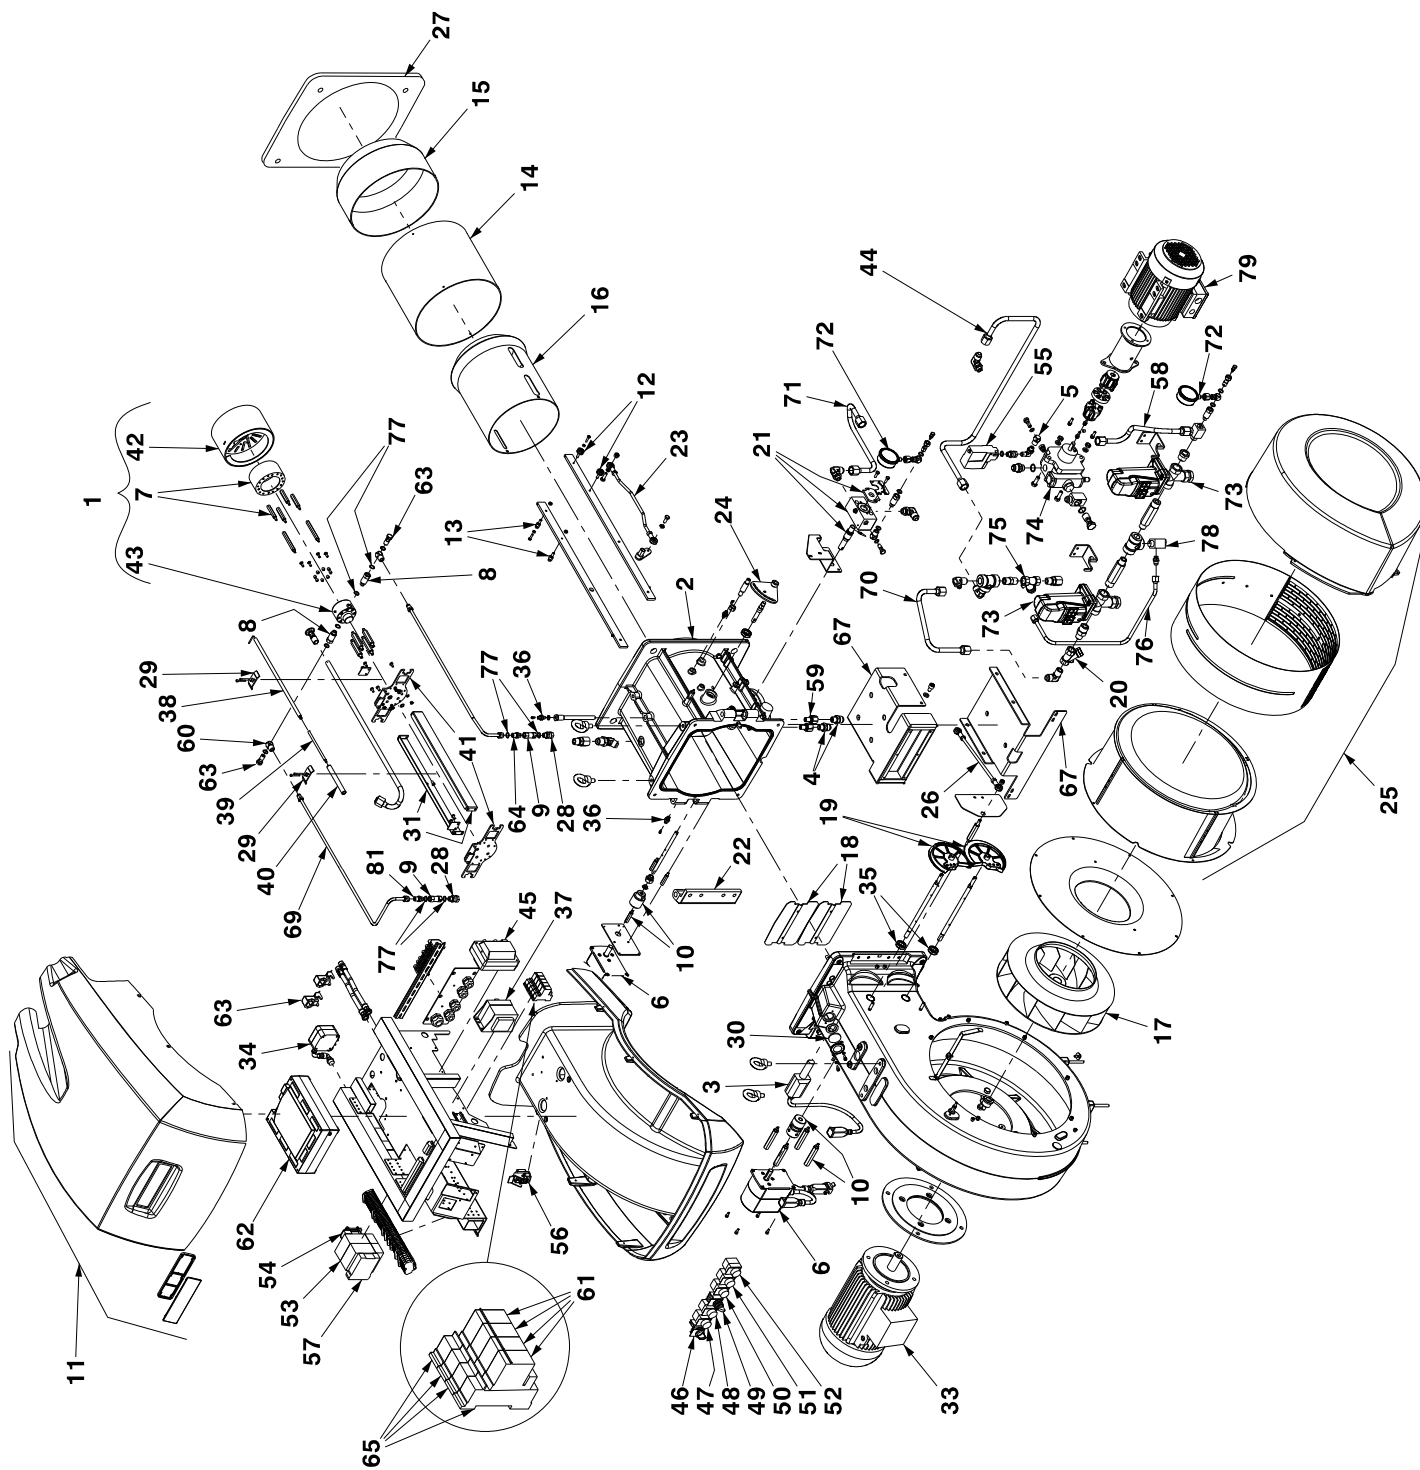

**Fig. 34**
- Remove the tie rod 1)(Fig. 34) of the head movement lever, loosening nut 2).